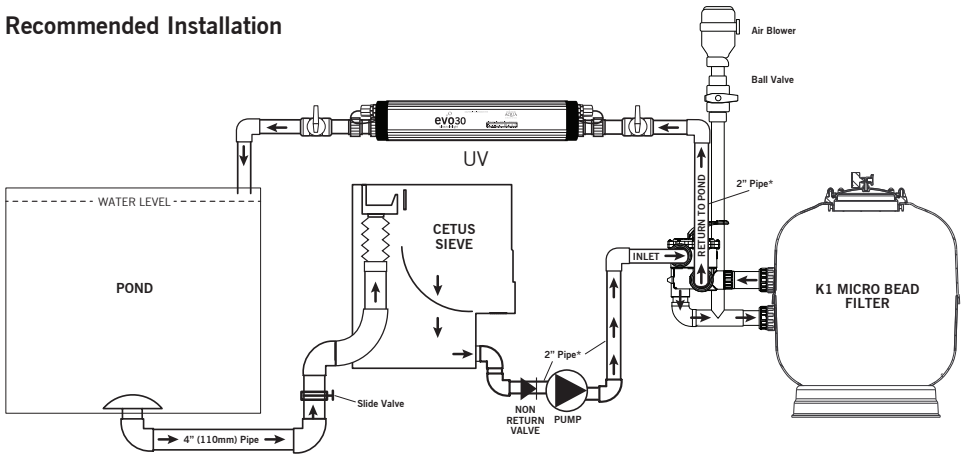

Figure 9.
7. Make pipe connections onto the valve. Pump line (inlet), return line and waste lines are marked on the valve. A ball valve, slide valve or non-return valve needs to be installed on the pumps suction line from the pond / pre-filter to the pump. We highly recommend a non-return valve (see figure 9). Refer to your pump manufacturer's manual to see if the pump is self-priming. For the avoidance of doubt install your pump below the pond water level. Allow a full 24 hours for all glued pipework joints to harden.